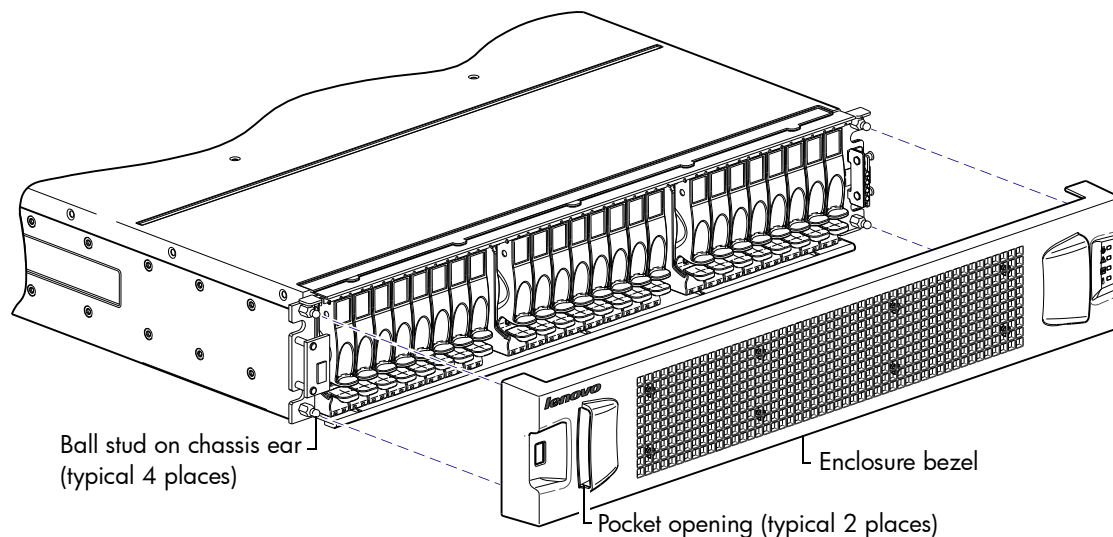

Figure 33 Partial assembly showing bezel alignment with 2U24 chassis
- Bezel alignment for 24-drive enclosure (2U24): Figure 33 on page 57
Orient the enclosure bezel to align its back side with the front face of the enclosure as shown in Figure 33 on page 57 and Figure 34 on page 57. Face the front of the enclosure, and while supporting the base of the bezel, position it such that the mounting sleeves within the integrated ear caps align with the ball studs, and then gently push-fit the bezel onto the ball studs to securely attach the bezel to the front of the enclosure.